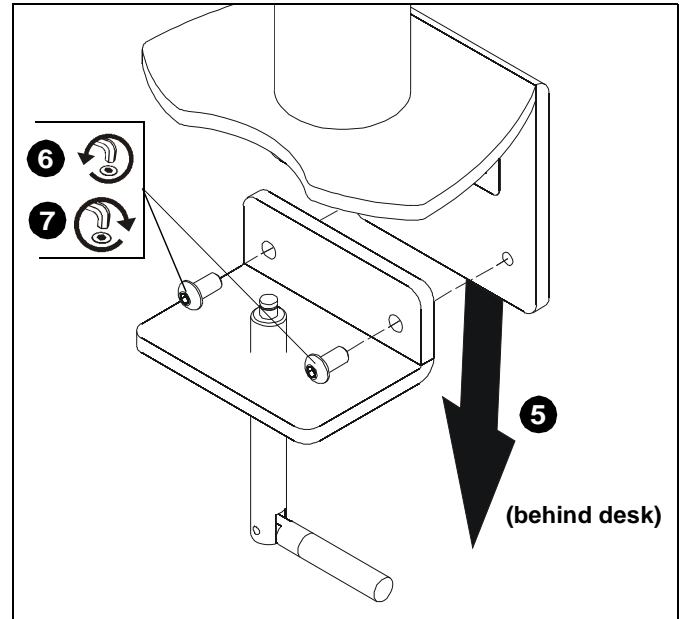

Figure 2
5. Place desk clamp (D) over desired mounting location on desk. (See Figure 2)
6. If there is not enough clearance behind the desk for the device to clear, remove the bottom portion of the desk clamp by using 5/32" hex key (L) to remove 2 connecting screws. (See Figure 2)
7. Reinstall bottom portion of the desk clamp (if necessary) by reinstalling 2 connecting screws underneath desk. (See Figure 2)